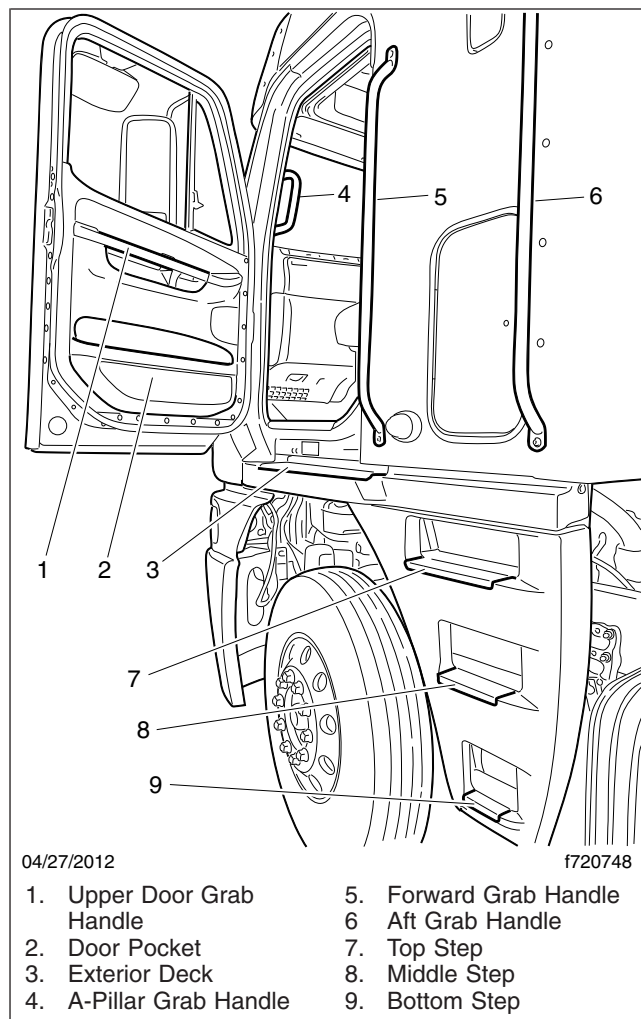

Fig. 2.3, Fixed Steps and Grab Handles, Left Side (RHD shown)
2. Grasp the aft grab handle with your right hand and the forward grab handle with your left hand. See Fig. 2.3.